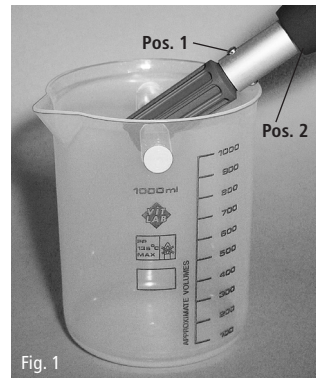

Fig. 1
- ▶ Assembly: push the telescopic rod onto the plastic adapter. Make sure that the pressure spring (Fig. 1, Pos. 1) clicks properly into place.
- ▶ The length of the telescopic rod can be steplessly adjusted by loosening the union nut (Fig.1, Pos. 2).